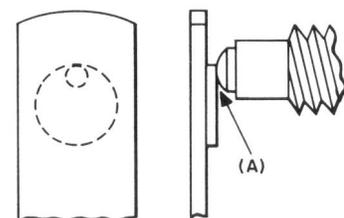

Fig. 4—Contact Alignment
2.08 Contact Alignment: Fig. 4(A)—Contacts shall line up so the point of contact falls wholly within the boundary of the opposing contact.